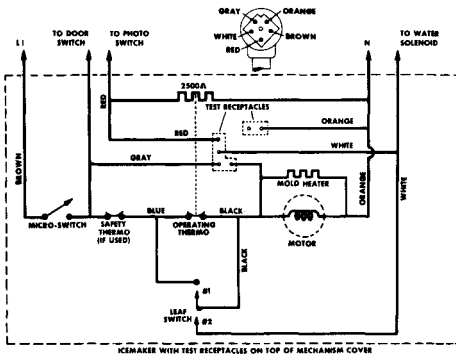

Figure 40 - Schematic
- a. Test for continuity between the gray and black lead terminals of the "L" shaped test receptacle (see figure 40).